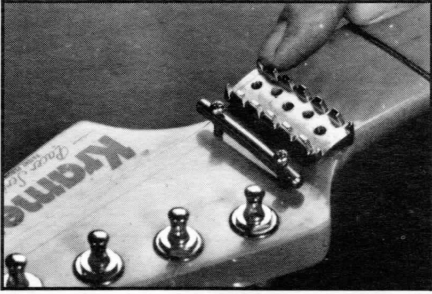

FIGURE SG 3
- A. Strings should pass over the nut; **under** the string retainer bar, and enter the tuning keys. Fig. SG 3 and SG. 4.